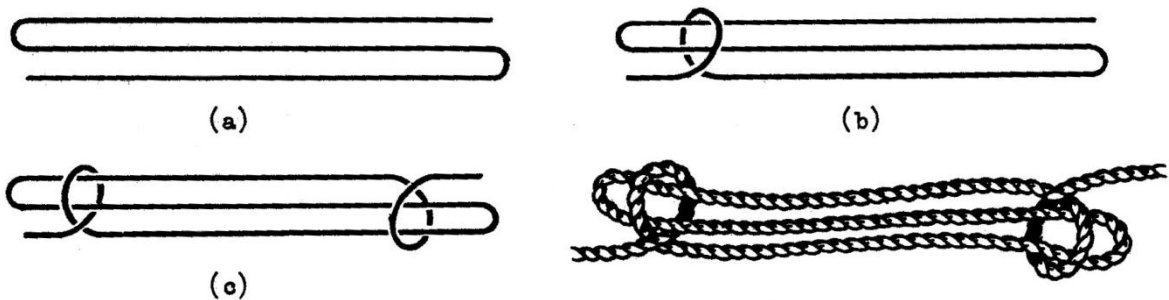

FIG. 13. SHEEP SHANK.
3.13 Sheepshank. A sheepshank (see Fig. 13) is used for shortening a rope without knotting or cutting. It can be made in the centre of a rope or when ends are inaccessible. See Figs. 13a, b and c for method of making the knot.